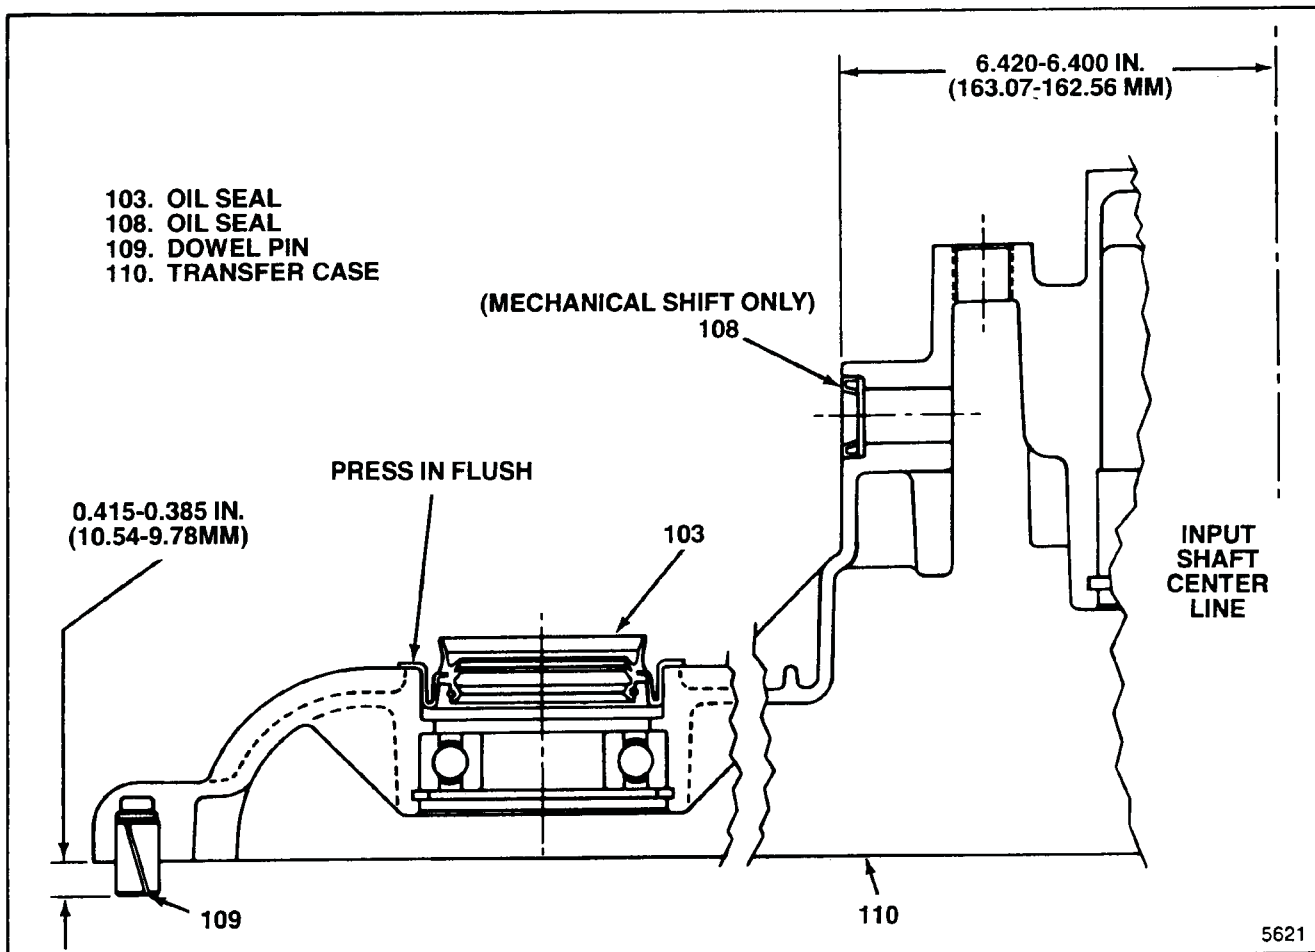

Figure 5-2. Installing Parts in Transfer Case
a. If removed, press two new dowel pins (109) into transfer case to dimension shown in figure 5-2.
b. For mechanical shift units only, press in new oil seal (108) to dimension shown in figure 5-2.
c. Press in ball bearing (107) to bottom in transfer case (110) and install retaining ring (106).
d. Press in ball bearing (105) to bottom in transfer case (110) and install retaining ring (104).
e. Position new oil seal (103) as shown in figure 5-2 and press in to seat seal flange against transfer case (110).
f. For PTO units only, install gasket (101), PTO cover (100) and four bolts (99). Torque bolts to 15-25 lb-ft 20.3-34.0 Nm.
g. Install breather barb (98) and torque to 6-10 lb-ft (8-14 Nm).